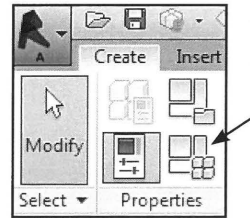

Fig. 08.120. *Family Types*.
- Klik *Family Types* (Fig. 08.120).